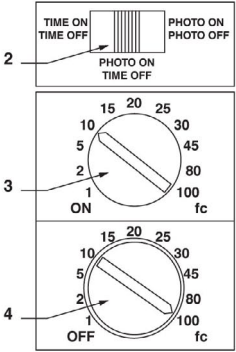

Figure 2
- 2. **In Photo ON/Time OFF Mode** (Figure 2, Arrow 2), channel will turn **ON** and **OFF** based on the combination of timer and light level settings. Note: 2 conditions must be met for the channel to turn **ON**. 1) The ambient light level falls below the **ON fc** setting (Arrow 3) and 2) the channel is scheduled to be **ON** at that time. Typically an **OFF** time setting for during the night will be set by the user. Otherwise, the channel will turn **OFF** when the ambient light comes above the "**OFF fc**" light level setting (Arrow 4). This mode permits the channel to turn **OFF** and **ON** as many times as needed, in the period between SUNSET and SUNRISE. In this illustration, the light level for ON fc is about 10 Foot-Candles, and the light level for OFF fc is about 100 Foot-Candles. Refer to the section 6.0 "Scheduling ON's/OFF's."